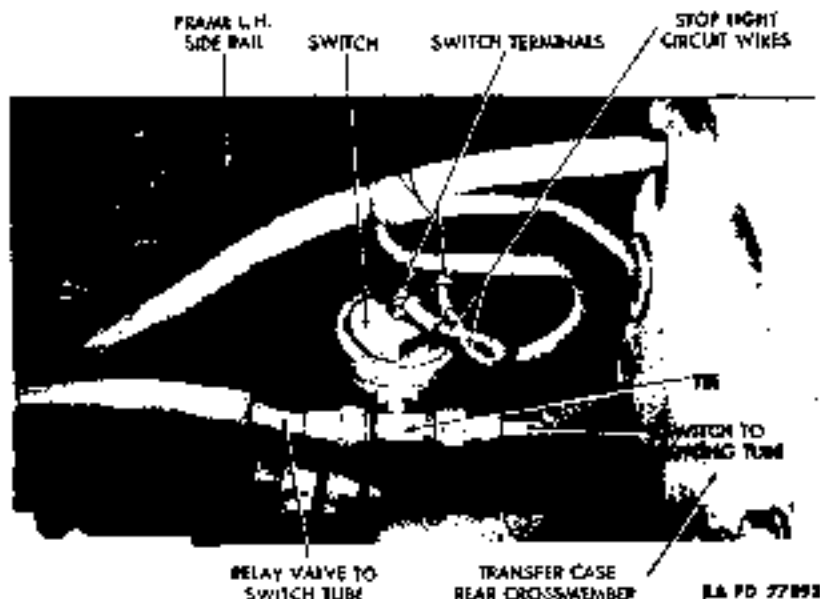

Figure 102 — Stop Light Switch Installed
(1) **DESCRIPTION** (fig. 102). This switch is mounted on the left frame side rail behind the transfer case rear crossmember. The switch is air-operated, the working parts consisting of a diaphragm, two contact points, and a coil spring. When brakes are applied, air enters the switch and lifts diaphragm, closing the contacts and lighting stop light. When brakes are released, a coil spring pushes diaphragm down, opening contact points and turning out stop light.